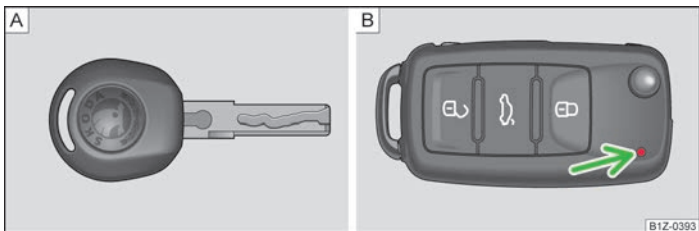
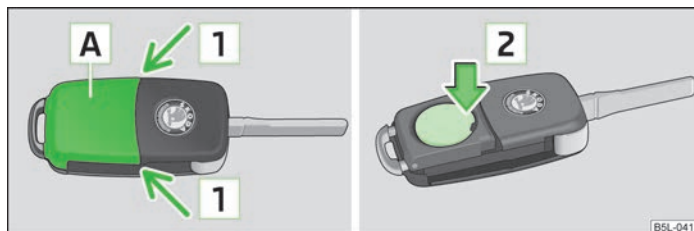

Fig. 8 Key without remote control/key with remote control (remote control key)
Fig. 9 Remote control key: Remove cover/remove battery
Two keys are provided with the vehicle. Depending on the equipment, your vehicle can be equipped with keys without radio remote control » Fig. 8 - A or with radio remote control » Fig. 8 - B.
- Each remote control key contains a battery that is located under the cover A » Fig. 9. The battery needs replacing if red warning light » Fig. 8 on page 26 - B does not go on when you press a button on the remote control key. We recommend that you ask a ŠKODA Service Partner to replace the key battery. However, if you would like to replace the discharged battery yourself proceed as follows.
- Press off the battery cover with your thumb or using a flat screwdriver in the region of arrows 1 » Fig. 9.